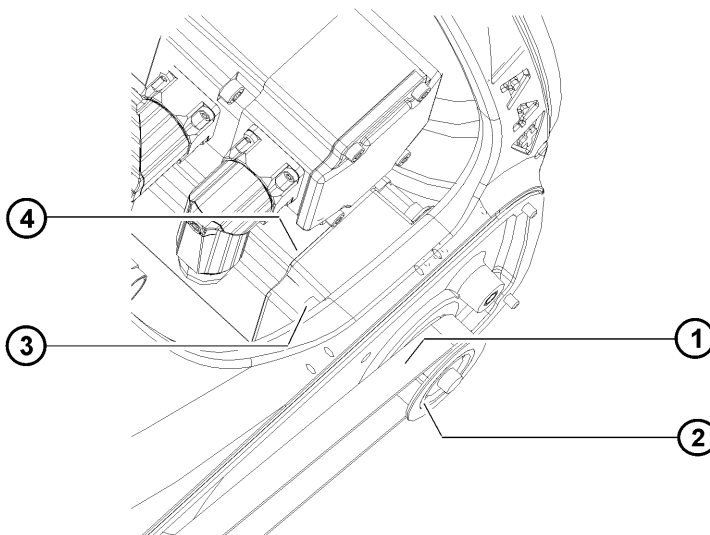

Fig. 11-24: Motor A5 with toothed belts
5. Align and insert motor A5 (>>> Fig. 11-24) as shown in the illustration. When inserting toothed belts, fit them on the toothed belt pinions. When fitting the toothed belt, it must be ensured that it meshes properly with the toothed belt pinion.